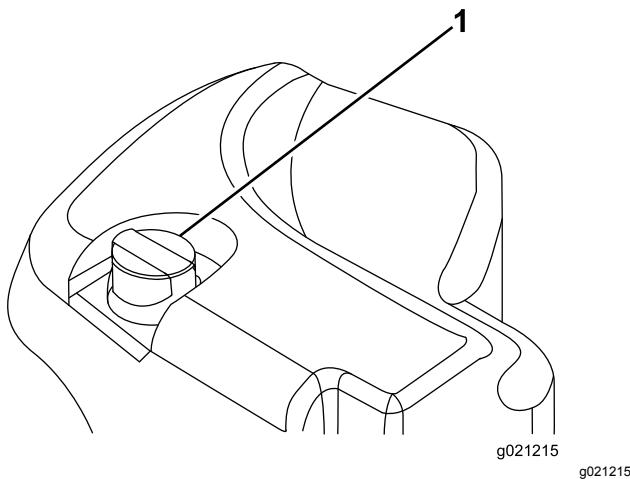

Figure 66
2. Clean the area around the filler neck and the cap of the hydraulic tank (Figure 66).